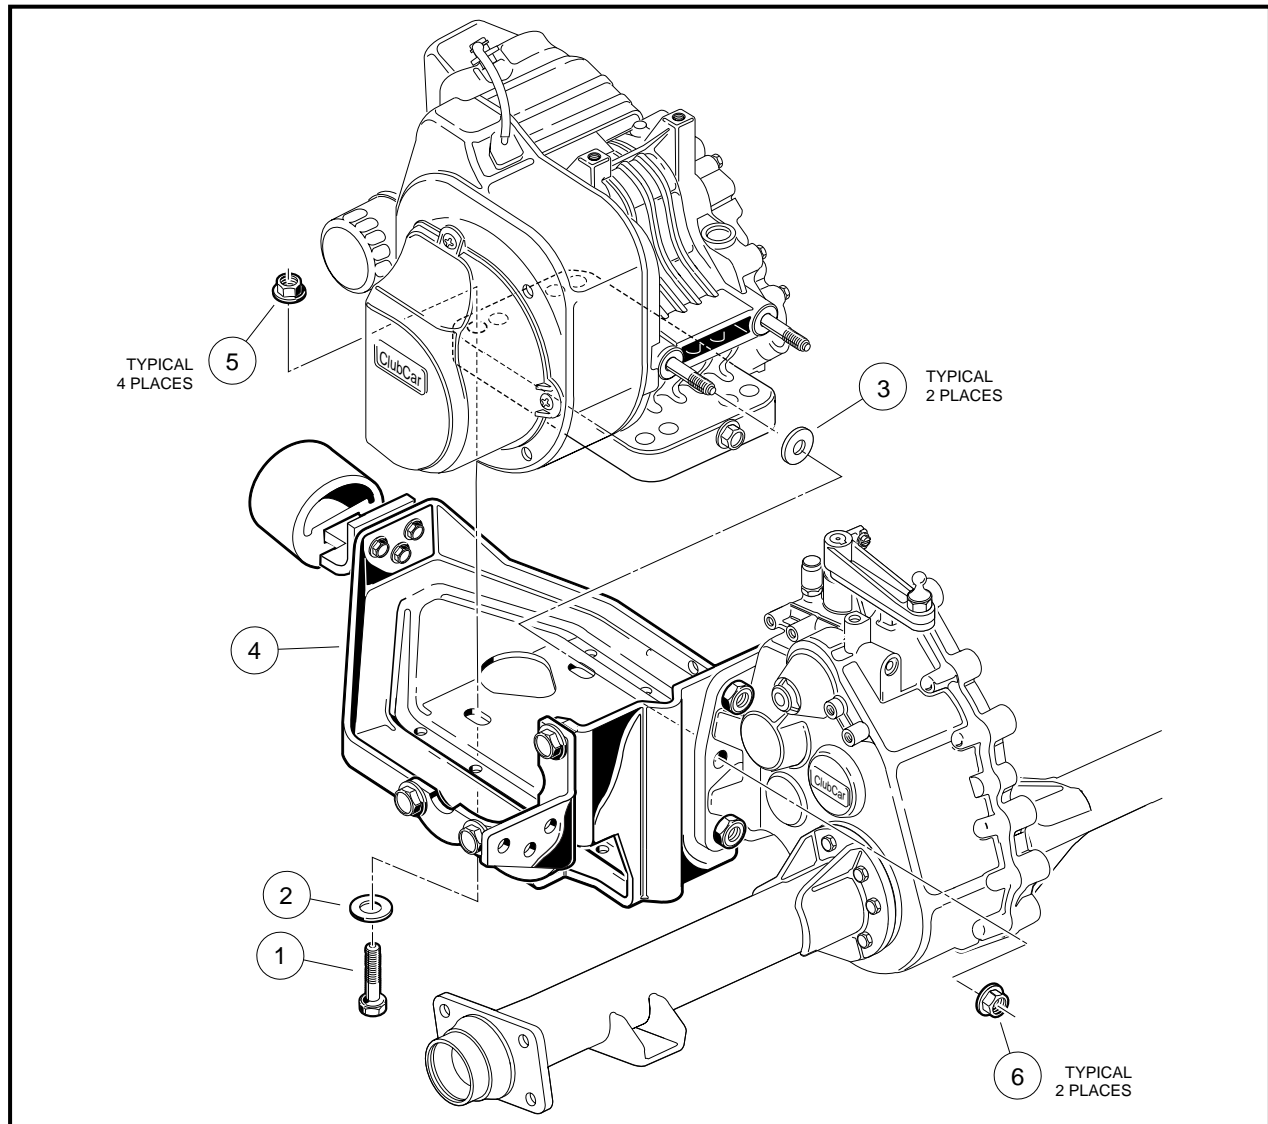

Figure 13-44 Engine Mounting Plate
5. Remove engine mounting hardware (Items 1, 2, 5 and 6) (**Figure 13-44, Page 13-23**).